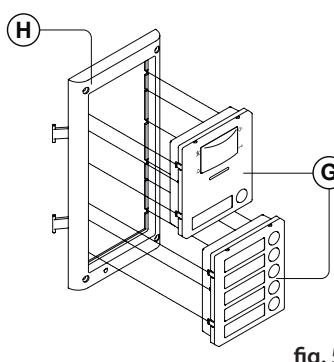
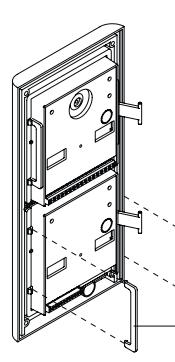

fig. 5
fig. 6
Apply the  seal as shown in **Fig. 5**.
Fit the anti-tampering locks  as shown in **Fig. 6**.
4. Before installation of the module support frame, hook the modules **G** to the support frame **H** as shown in **Fig. 5** then, as shown in **Fig. 6**, fit the two anti-tampering locks **W** for each module (do the same for the second module support frame);